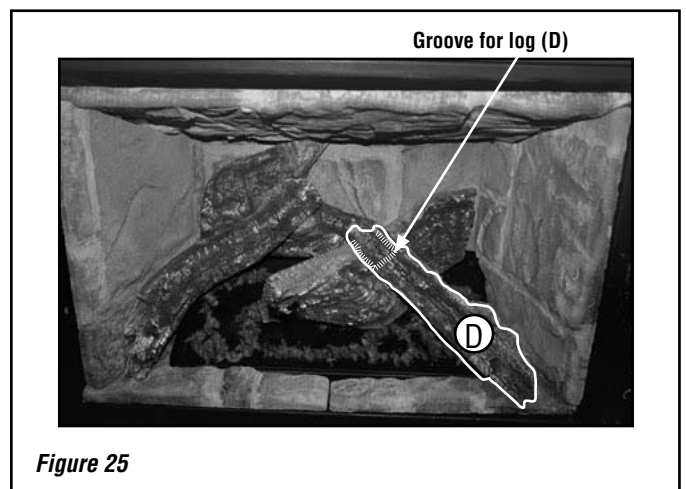

Figure 25
- Locate groove in center log (B), and place the top of the right log (D) in groove with the bottom end of the log resting against the right refractory panel. See **Figure 25**.